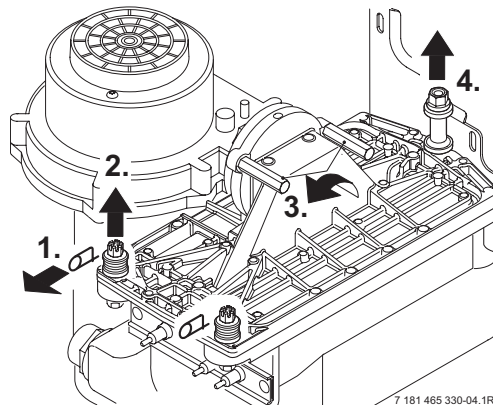

Fig. 57
- ▶ Remove the clips (1) and unscrew the two bolts (2). Refer to fig. 57.
- ▶ Unscrew and remove the two hexagon screws securing the fan (3).
- ▶ Slacken fully the rear securing bolt (4).